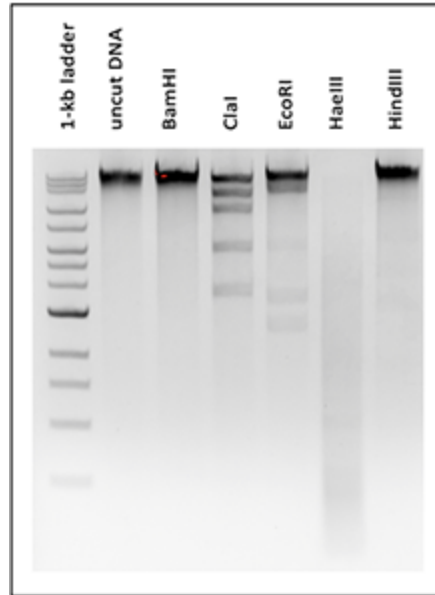

Figure 10.3-1. Example of a well-labelled restriction enzyme gel photograph, which includes information about the various enzymes used.
3. Label your copy of the gel photograph to include the names of each enzyme used above its corresponding lane. Below is an example of a properly labelled gel photograph (Figure 10.3-1).